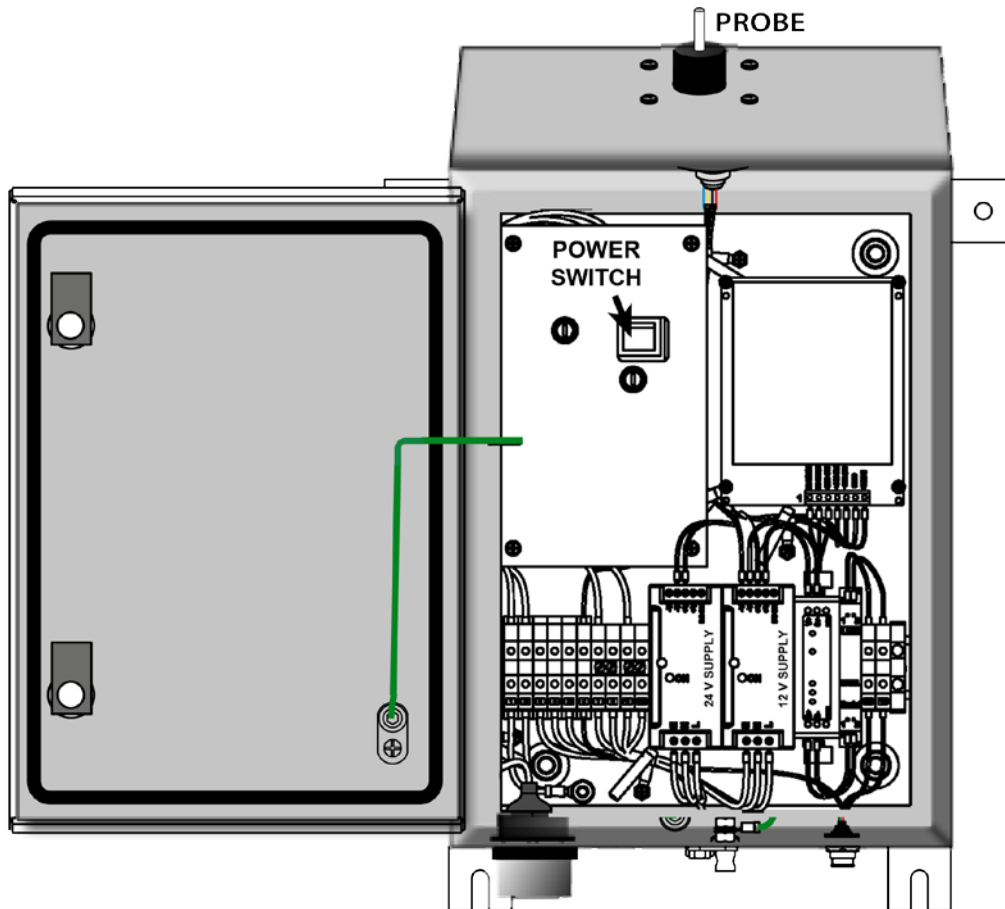

Figure 1. Model 6496 Freezing Rain Sensor Enclosure
The Model 6496 Freezing Rain Sensor is mounted on an enclosure containing the power supplies and communication interface (see Figure 1). Extensive internal self-testing identifies problems and provides diagnostic information to indicate whether the sensor is operating properly.
1. Check that the ON/OFF power switch inside the enclosure (Figure 1) is ON.